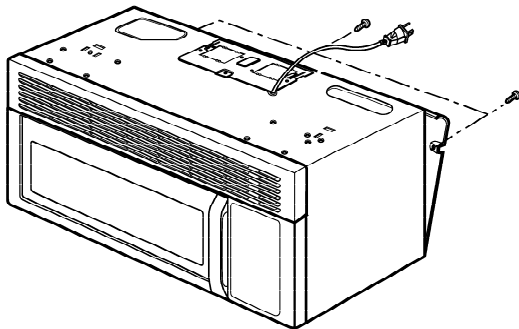
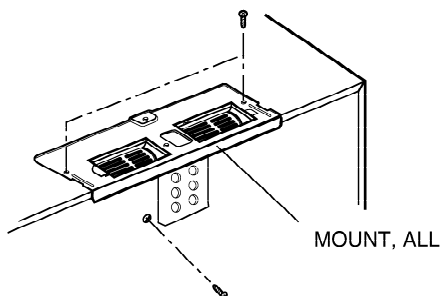

Figure 18
Figure 19
- (1) Remove the mounting plate by removing two screws securing it to the back plate. (See Figure 18)
- (2) Remove the two rods.
- (3) Remove the two screws securing the MOUNT, ALL and one screw securing the ventilation fan ASS'Y. (See Figure 19)